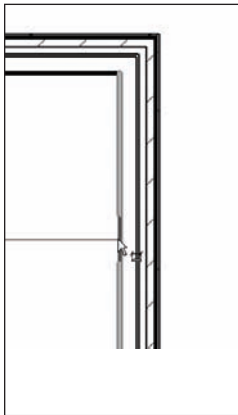

FIGURE 5.29 Press Tab to locate the inside face of the wall.
1. Hover your cursor over the inside face of the wall and tap the Tab key on your keyboard until the inside face of the wall becomes highlighted. When it does, pick the highlighted face of the wall, as shown in Figure 5.29.